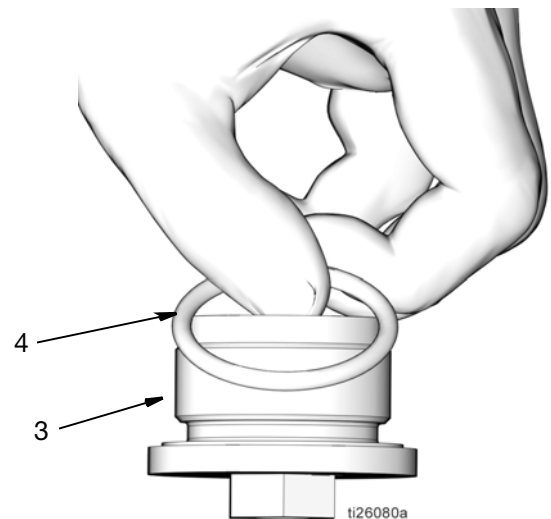

FIG. 53
- d. Apply a thin layer of grease to o-ring (4). Install o-ring to piston stop nut (3) (FIG. 53).